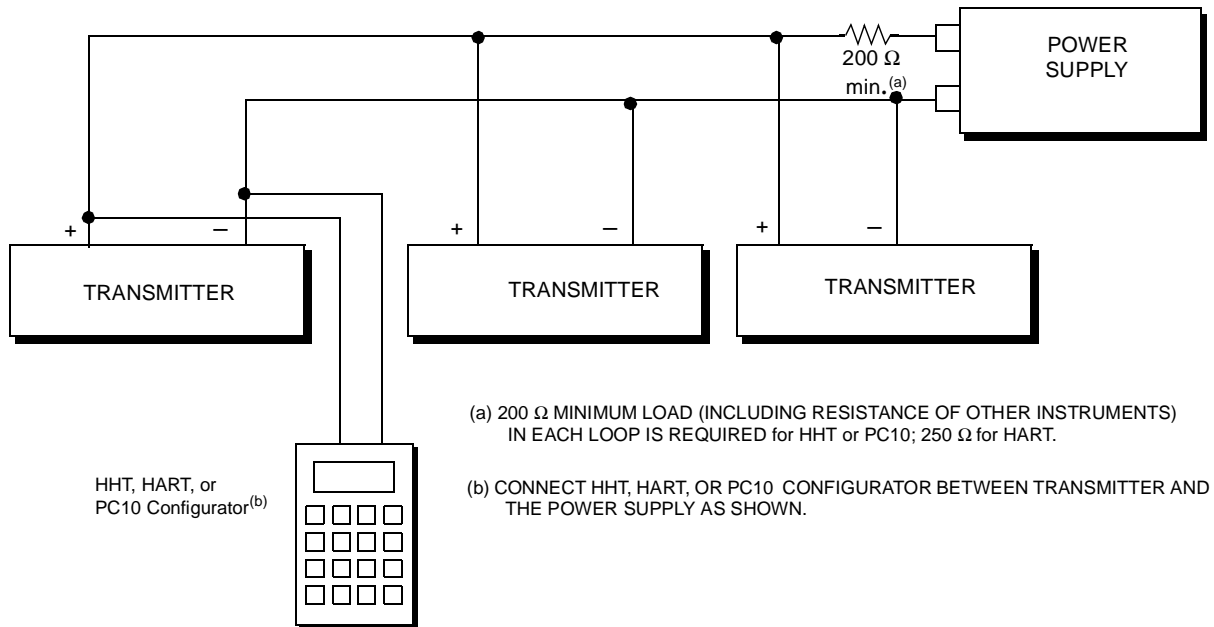

Figure 17. Wiring Several 4 to 20 mA Transmitters to a Common Power Supply
6. If wiring additional transmitters to the same power supply, repeat Steps 1 through 5 for each additional transmitter. The setup with multiple transmitters connected to a single power supply is shown in Figure 17. Refer to MI 020-350 for details.